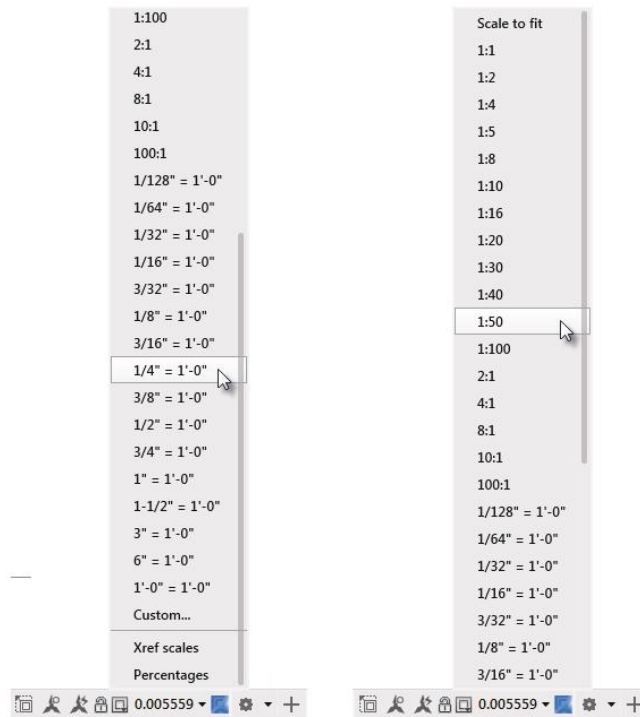

FIGURE 14.22: Selecting the imperial viewport scale (left) and the metric viewport scale (right)
12. Click the Viewport Scale button and, from the drop-down list, choose $1/4'' = 1'-0''$ (1:50), as shown in Figure 14.22.